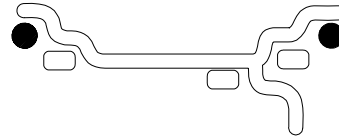

Figure 15
**A. DYNAMIC** (two planes), suggested for all steel rims. In this case the wheel weights must be clipped onto the rim edges. This function is selected as a default and the LEDs corresponding to the wheel weight location are lit on (Figure 15)